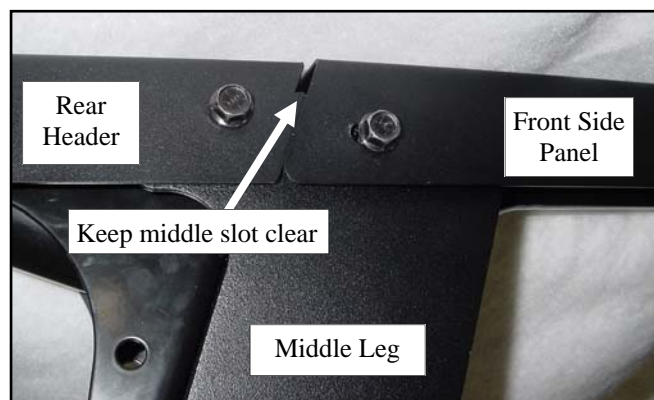

Fig. 5.2 (view of passenger's side)
**5.2** Fasten front side panels to the middle panel using the hardware listed below, as shown in Figure 5.2.
**6.2** Per fig. 5.2, fasten the rear header to the middle leg.
**Note:** Verify slot in middle leg, between rear header and front side panel, is clear prior to tightening bolts. (see Figure 5.2)